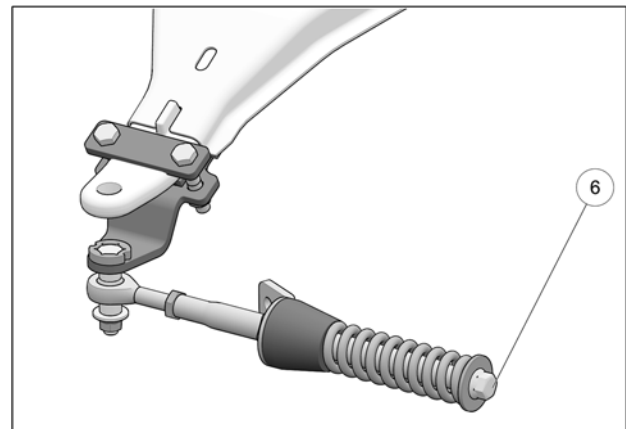

Fig. 30
18. Verify that spring assembly bolt (**6**) is tightened to the recommended torque specification: 75 N•m [55 lb•ft]. Refer to Fig. 30